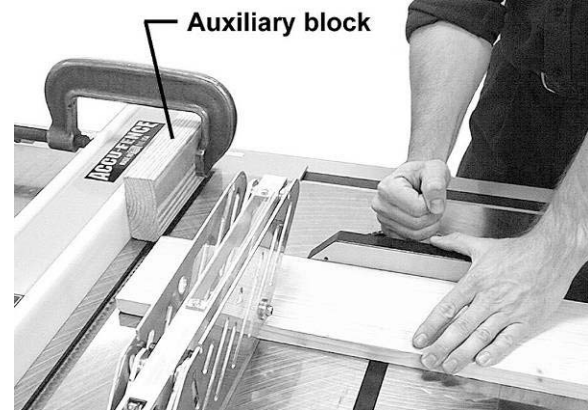

Figure 29
- Do not use the miter gauge and rip fence in the same operation unless provision is made by use of a facing board on the fence so as to allow the cutoff section of the workpiece to come free before the next cut is started (see Figure 29).
Crosscutting should **never** be done freehand nor should the fence be used as an end stop unless an auxiliary block is clamped to the front of the blade area such that the cutoff piece comes free of the block before cutting starts (Figure 29).